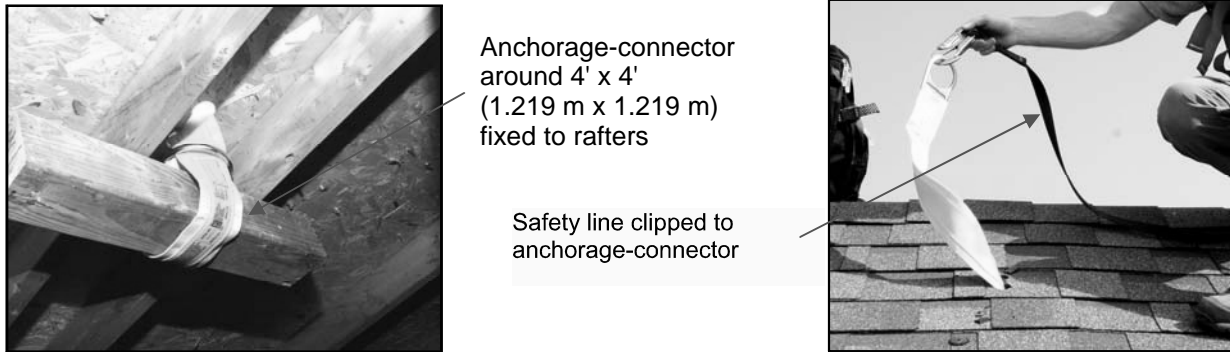

Fig. 5.1.2 – Suggested safety line configuration using line-set hole.
3. Insert anchorage connector through hole and securely fix inside attic (Fig. 5.1.2).
Each person should have their own anchorage connector. Once C-channel is in place, anchorage connectors can be fixed to C-channel and removed from roof-penetration to allow line-set to be pulled through (Fig. 5.1.2).